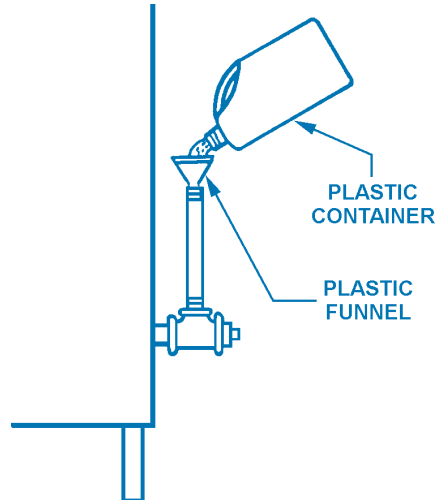

FIGURE 9
- Using 3/4" N. P. T. fitting and nipples, make up a standpipe arrangement at the heater drain valve opening as shown in figures 9 and 10. Note: the use of PVC or CPVC Schedule 80 plastic fittings and nipples is recommended. Use Teflon tape or paste when making up any threaded connections.